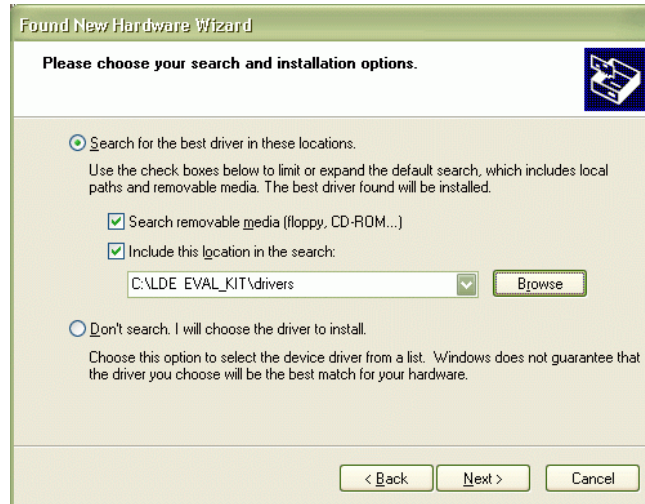

Figure 4: Enter the location of the drivers folder.
- When prompted, choose the location of the LDE EVAL_KIT\drivers, as noted in step 1 (see Figure 4).